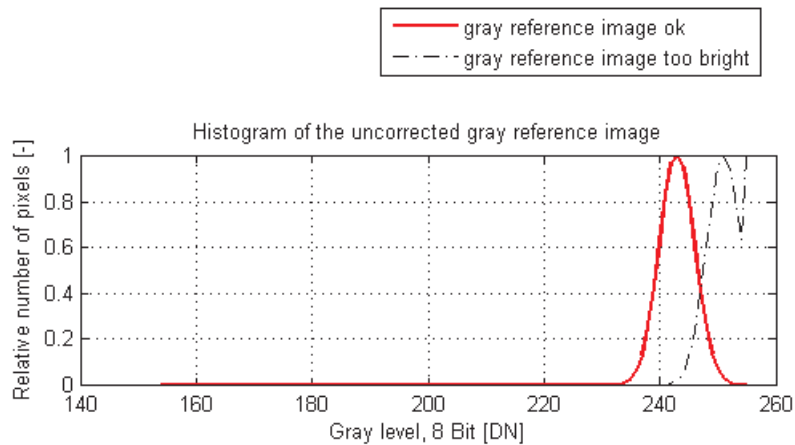

Figure 4.18: Proper gray reference image for gain correction
- When looking at the histogram of the gray reference image, ideally there are no gray levels at full scale (255 DN @ 8 bit). All pixels that are saturated white will not be properly corrected (see Fig. 4.18).